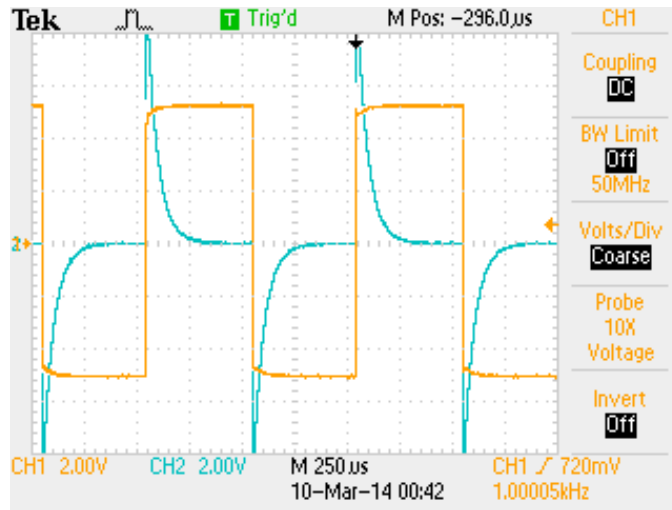

Figure 4: RC Circuit Trace
3. Use one probe to monitor the function generator output with the oscilloscope (as before), and connect the second probe into Channel 2 of the oscilloscope and use that probe to measure the voltage drop across the resistor. You'll need to press the blue "2" button. You should see something similar to figure 4.